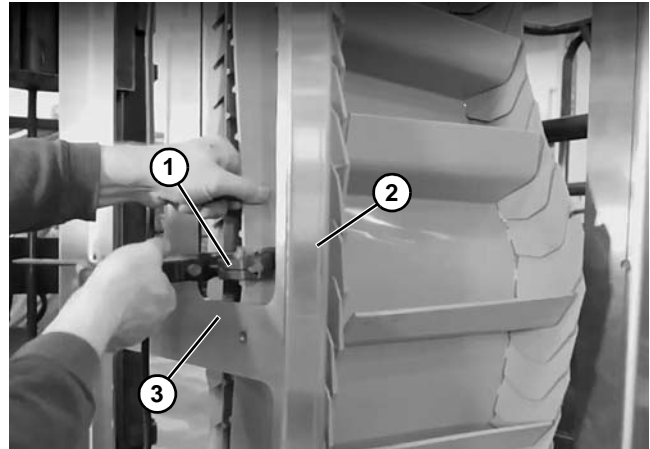

Figure 11
- On both sides of the conveyor, attach a bar clamp (Figure 11, item 1) to the belt midway up the column (Figure 11, item 2) on the incline side.
- Make sure to attach the bar clamps above a frame section (Figure 11, item 3) so that the belt does not slip down.